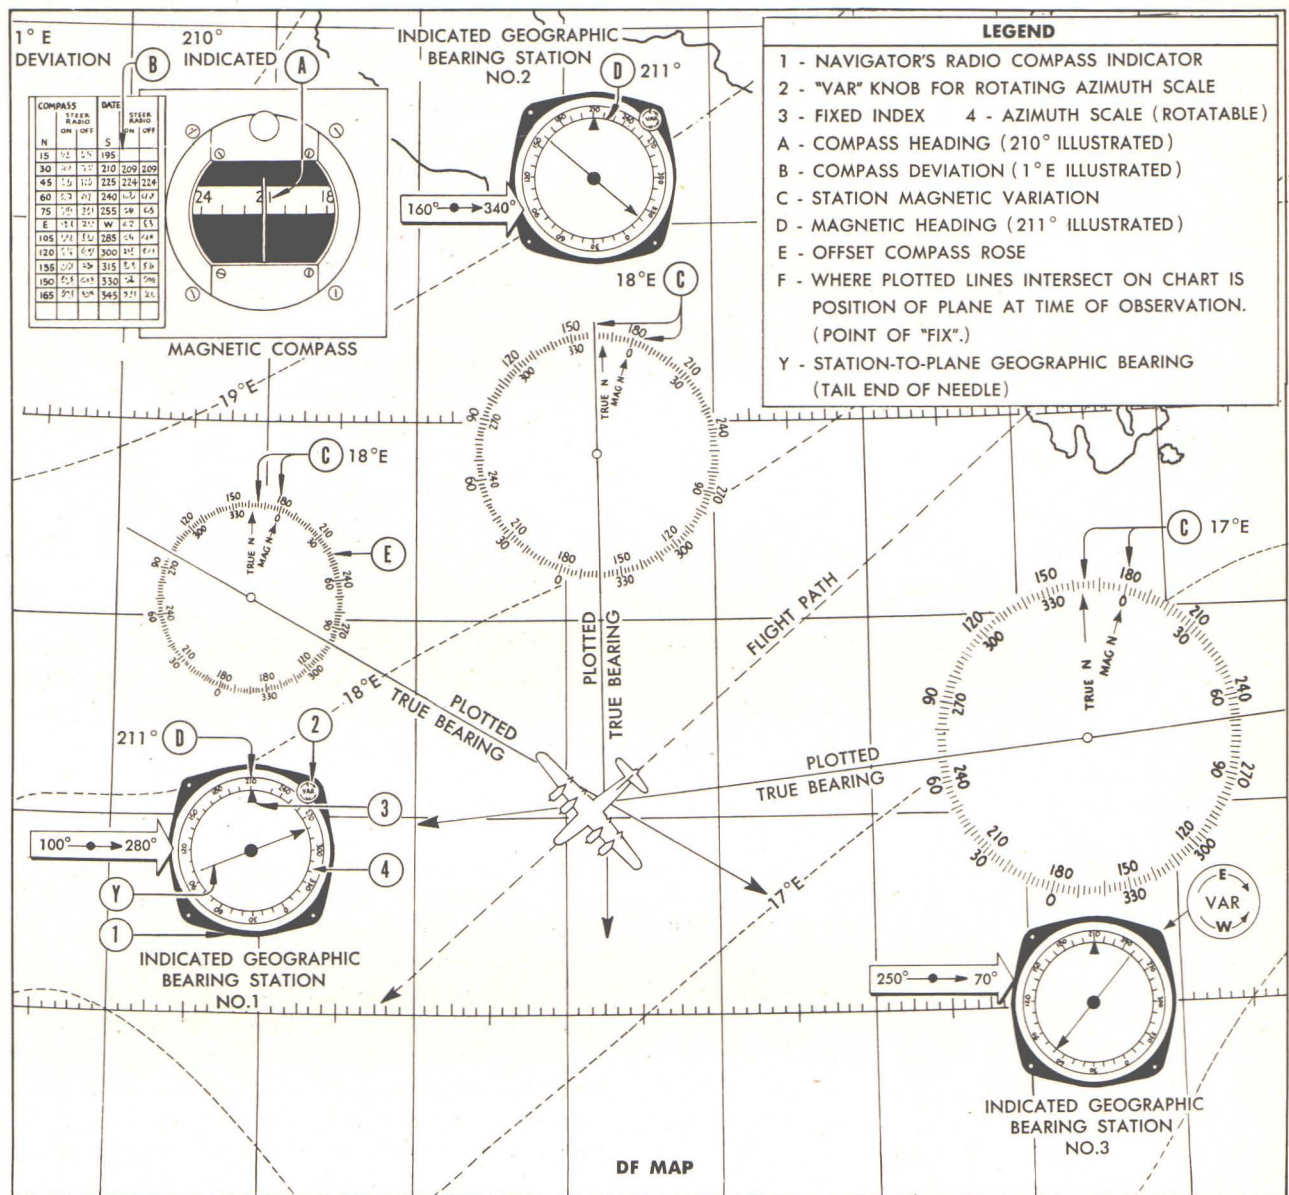

Figure 84 — Plotting Radio Compass Bearings to Obtain a Fix
(6) If the resultant sum of operation (5) is larger than 360 degrees, subtract 360 degrees from the result of operation (5) to obtain the correct station-to-airplane bearing. Plot this result on the map. (See Figure 84).
(7) With each of the two additional station-to-airplane bearings obtained in (2), repeat operations (3), (4), (5), and (6), using the bearings obtained in operation (2) in each case.
(8) When the three bearings are plotted on a map at the proper angle, indicated by the compass roses, the lines should intersect. This point of intersection is the approximate location of the airplane at time of observation. See figure 84).
(9) If resultant sum of operation (8) is larger than 360 degrees, subtract 360 degrees from result of operation (8) to obtain correct station-to-airplane bearing. Plot this result on map.
(10) With each of two additional station-to-airplane bearings obtained in operation (5), repeat operations (6), (7), (8), and (9), using bearings obtained in operation (5) in each case.
(11) When the three bearings are plotted on a map at the proper angle, indicated by compass roses, lines should intersect. This point of intersection is approximate location of airplane at time of observation. (See figure 84).
(12) Bearings obtained by aural - null method are subject to 180 degrees ambiguity. Where 180 degrees ambiguity exists, the bearing lines plotted on the map will indicate an airplane-to-station (rather than a station-to-airplane) bearing and they will fail to intersect. When it is clearly evident that 180 degrees ambiguity exists, the reciprocal bearing may be plotted. In other cases of doubtful correctness, the bearing may be retaken.
(13) To turn off radio compass, turn selector switch on the compass control box to "OFF".